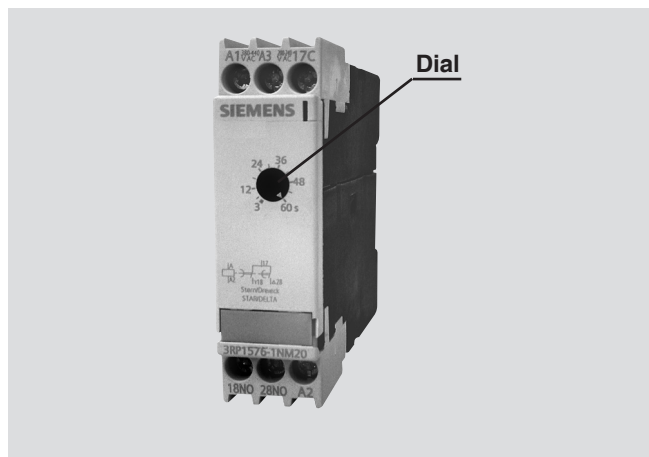

Fig. 3 Timer Adjustment
- Open the door & Set the timer to this measured value by rotating the dial shown in Fig. 3.